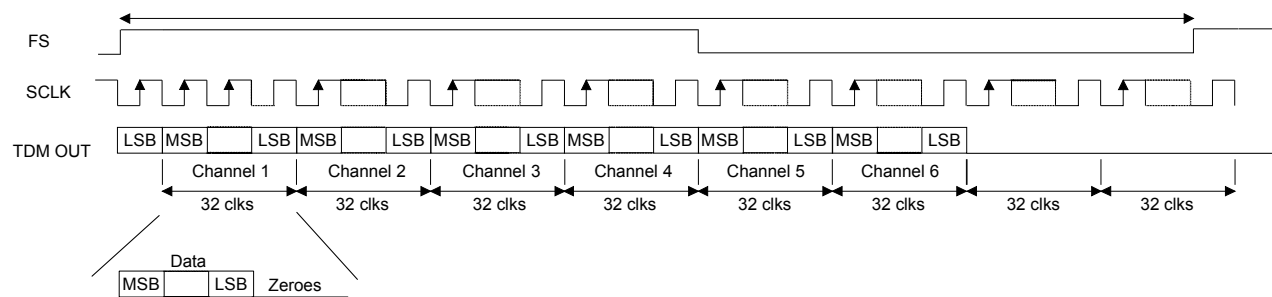

Figure 12. TDM Format
In TDM Mode, all six channels of audio data are serially clocked out during a single Frame Sync (FS) cycle, as shown in Figure 12. The rising edge of FS signifies the start of a new TDM frame cycle. Each channel slot occupies 32 SCLK cycles, with the data left justified and with MSB first. TDM output data should be latched on the rising edge of SCLK within time specified under “Serial Audio Interface - TDM Timing” section on page 16. The TDM data output port resides on the SDOUT1 pin. The TDM output pin is complementary TDM data. All SDOUT pins will remain active during TDM Mode. Refer to Section 4.11 “Optimizing Performance in TDM Mode” on page 29 for critical system design information.